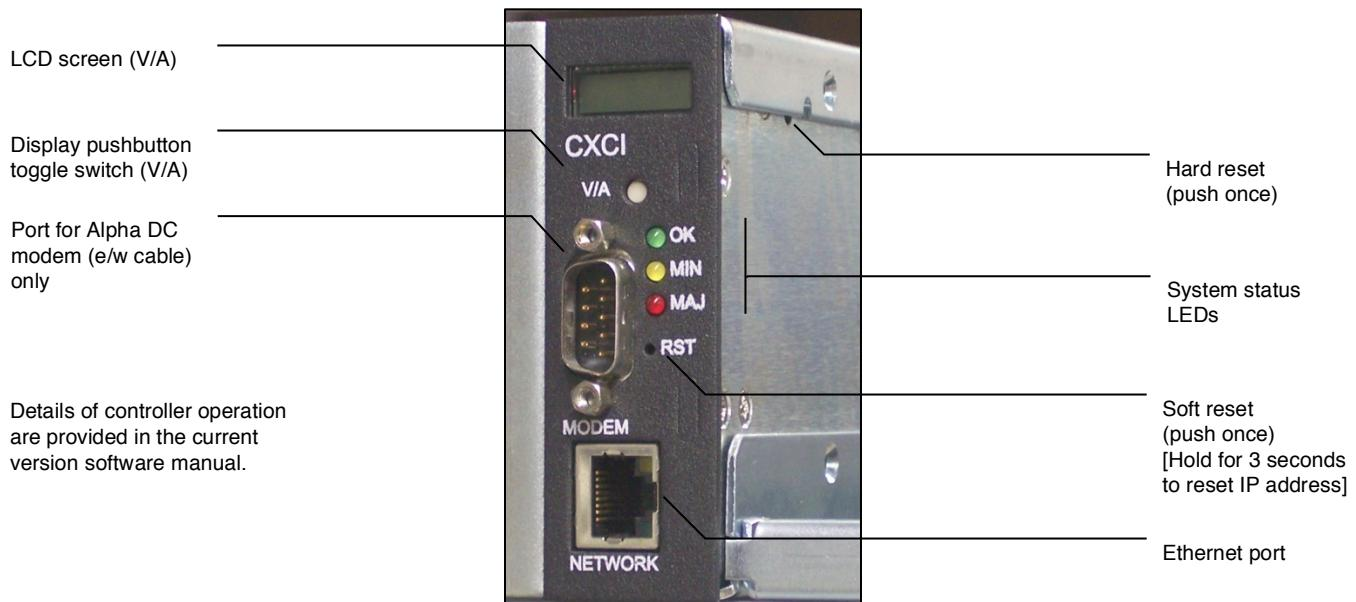
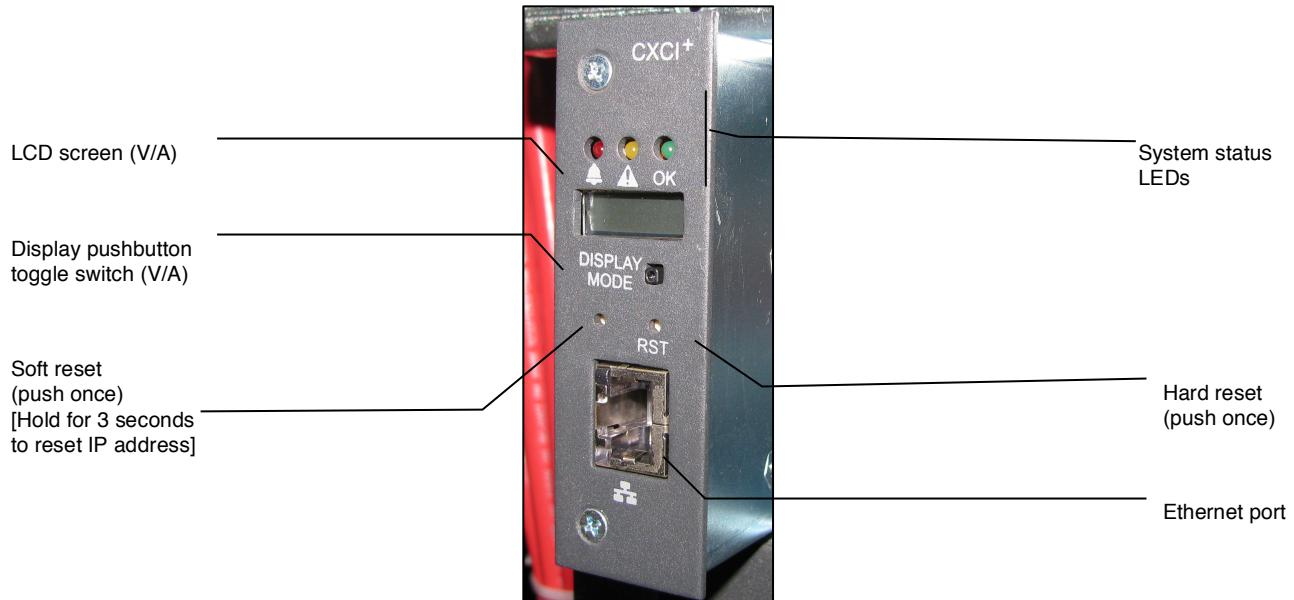

Figure 2—Cordex CXCI model system controller front panel
Figure 3–Cordex CXCI+ model system controller front panel
The CXCI (Figure 2) and the CXCI+ (Figure 3) controllers have a 4-digit display, for monitoring system voltage (V) and current (A). A pushbutton toggle switch allows the user to alternate the display reading.
The Modem port (front panel DB-9 connector, Figure 2) is designed for connection to Alpha Technologies' Cordex DC Modem #018-585-20.